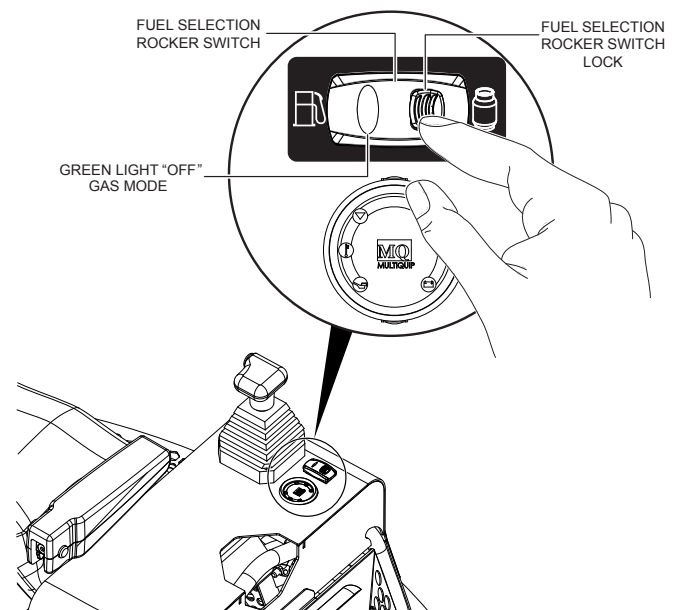

Figure 20. Fuel Selection Switch (Gas Mode)
5. Slide the rocker switch lock (Figure 20) to the left and hold. This unlocks the fuel selection rocker switch.
6. To select **GAS** mode, press down on the left side of the fuel selection rocker switch. The **GREEN** light is **OFF** (Figure 20).